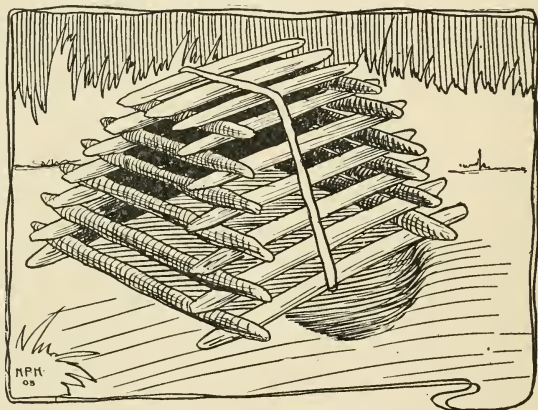

FIG. 222. — The Coop Trap.
**The Coop Trap**, shown in Fig. 222, can be used for trapping the larger variety of birds. This is well known
as an effective trap for wild turkeys. It consists of a number of sticks piled up in the form of a pyramid and tied together as shown in Fig. 222. Dig away enough of the ground under one side of the coop to allow a bird to enter, and then scatter some grain inside and a little in the entrance to attract the birds.